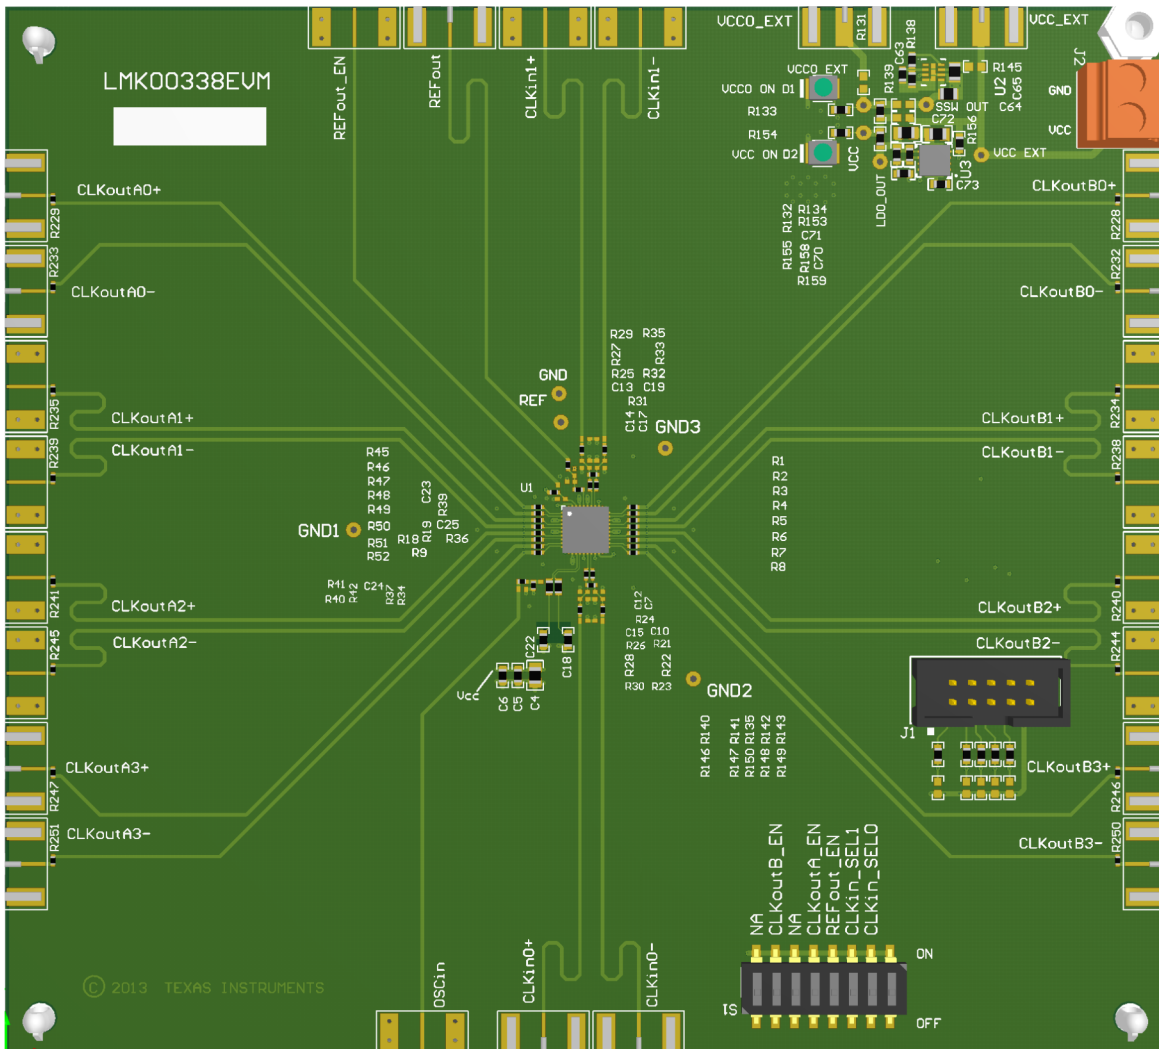

Figure 24. LMK00338 Layout Example
- For DC coupled operation of an HCSL driver, terminate with 50 Ω to ground near the driver output as shown in Figure 24.